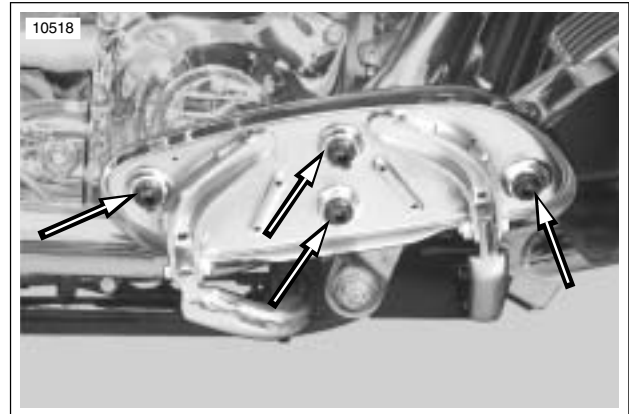

Figure 2-5. Footboard Cover Rubber Collars
1. See Figure 2-5. With footboards in up position, use a screwdriver to work cover rubber collars out through footboards. Remove insert assemblies.